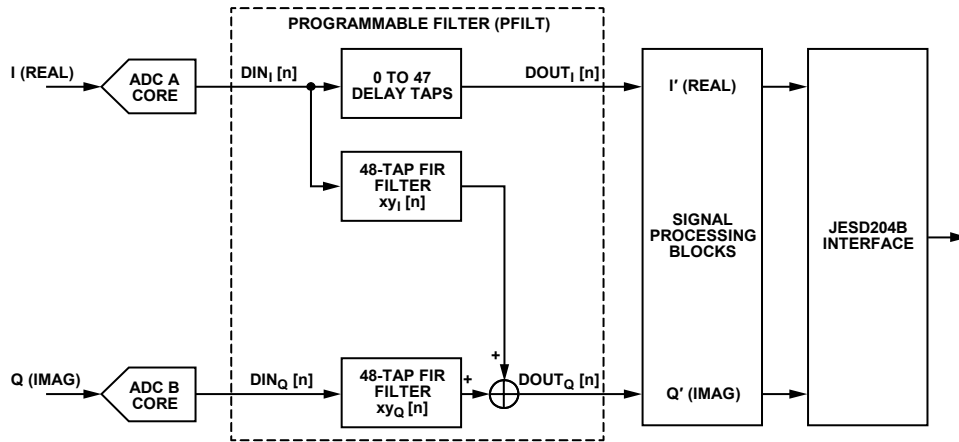

Figure 107. 48-Tap Half Complex Filter Configuration
- Half complex filter using two real 48-tap filters for the I/Q channels (see Figure 107)